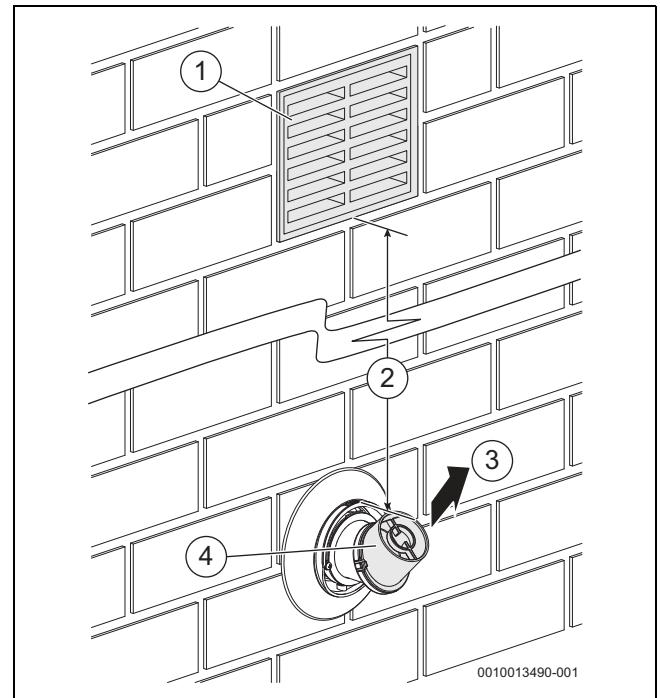

Fig. 35 Plume redirect distance to opening
- ▶ The flue terminal outlet position must follow those shown in figure 35.